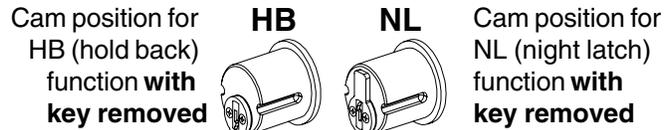

Figure 11-1
11.2. Make sure cylinder cam is in position for desired function **with key removed** (Figure 11-1). If not, remove cam and re-install in proper position.